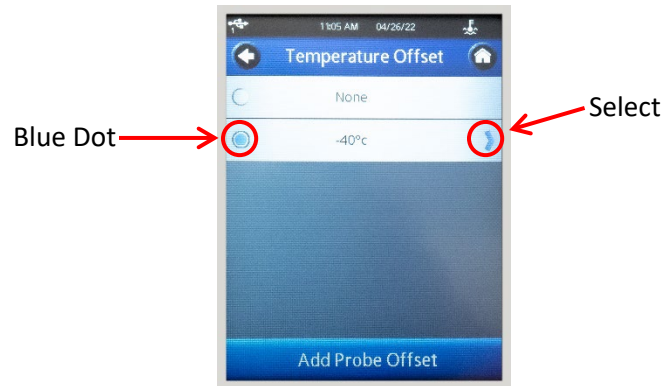

Figure 58: Temperature Offset Screen
7. A blue dot will be displayed to the left of the offset for this test temperature because you selected this offset during **Sample Preparation**. Press the right side of the offset label for this test temperature. See Figure 58.